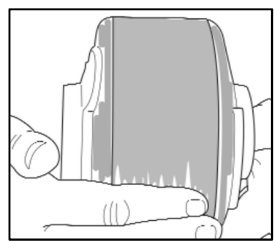
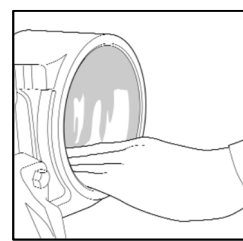
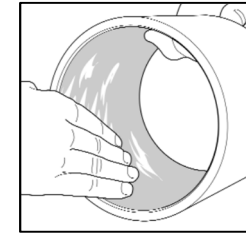

Fig. 14
Fig. 15
Fig. 16
1. Apply GEL P-80 solution around the pivot bush (Fig. 14), funnel "D" (Fig 15) and trailing arm outer tube (Fig. 16).